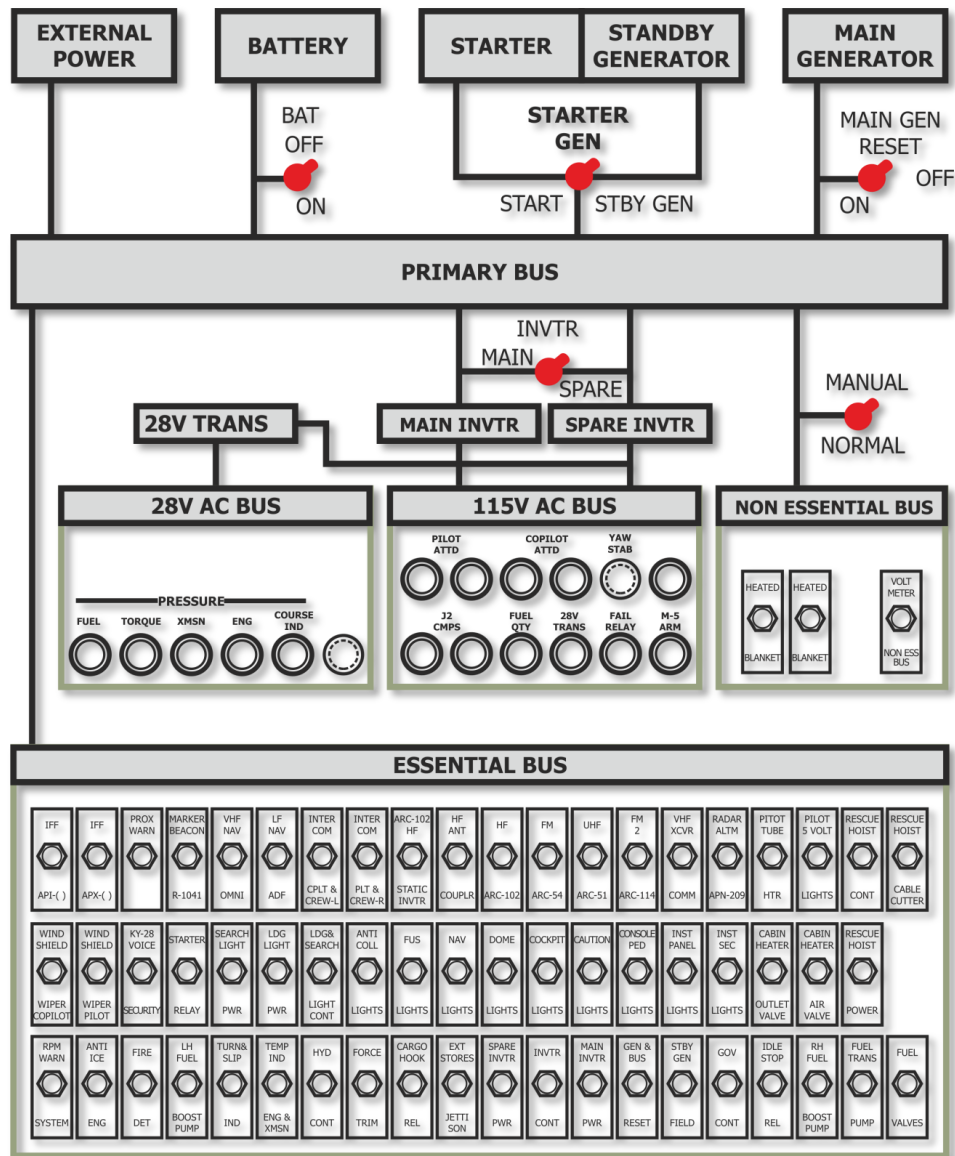
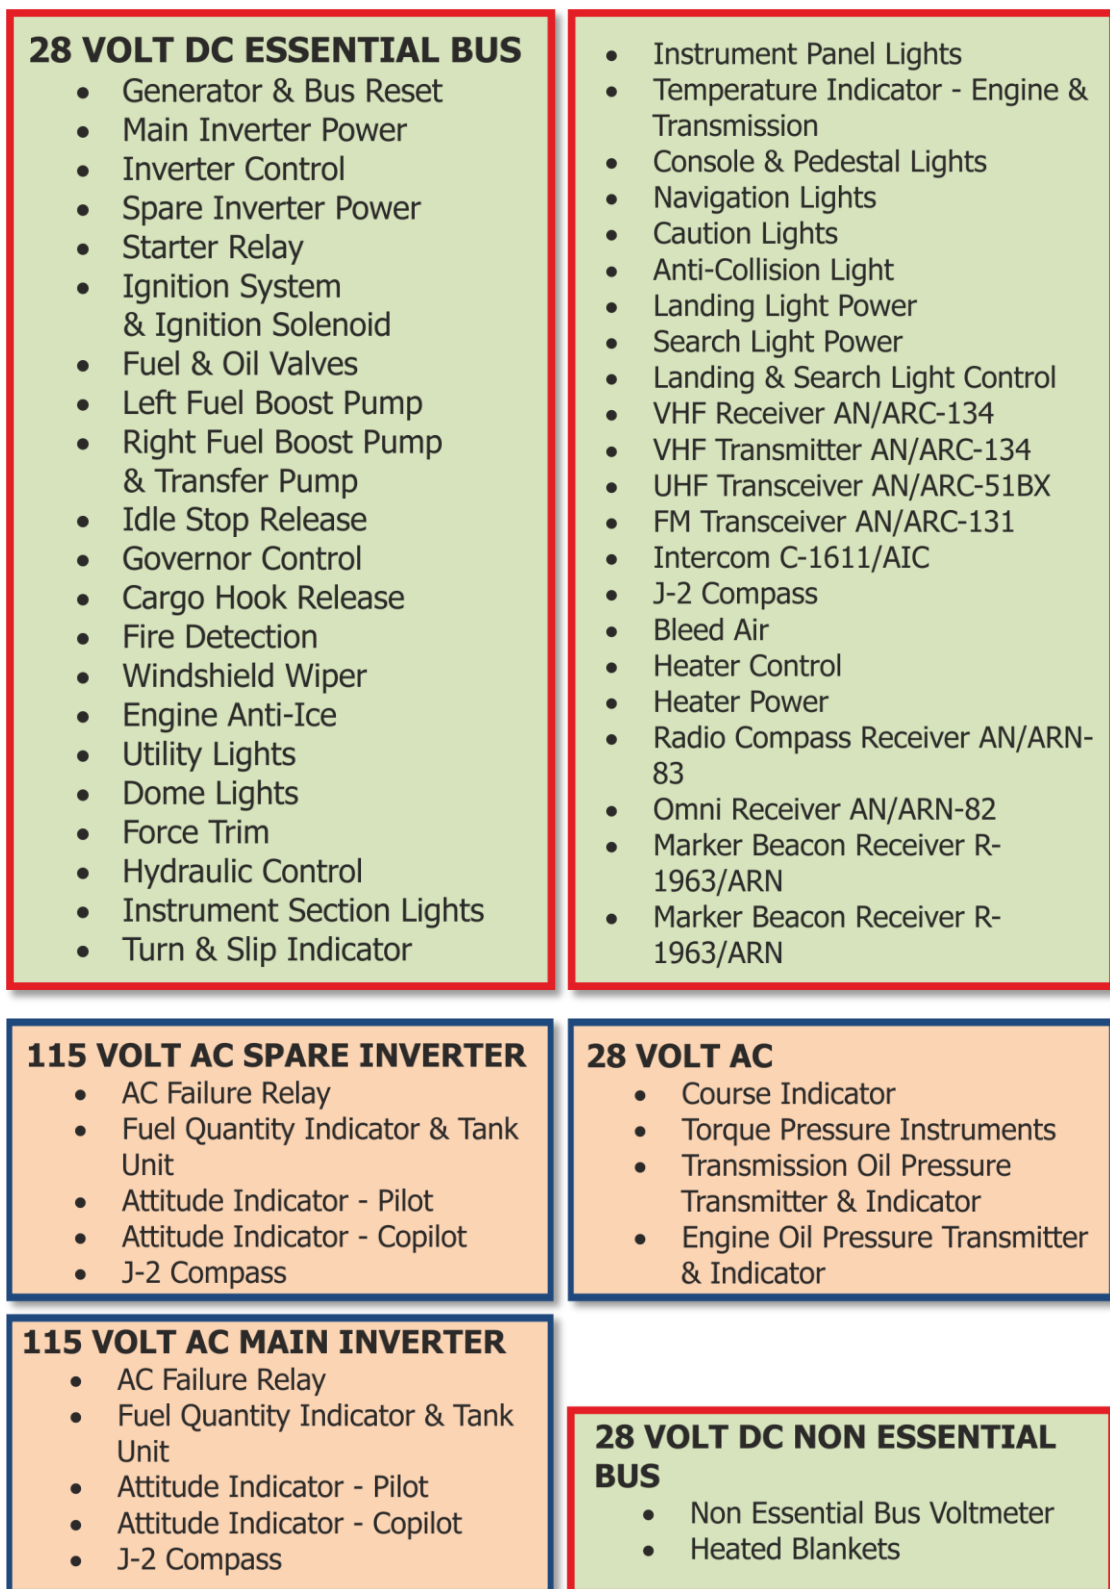
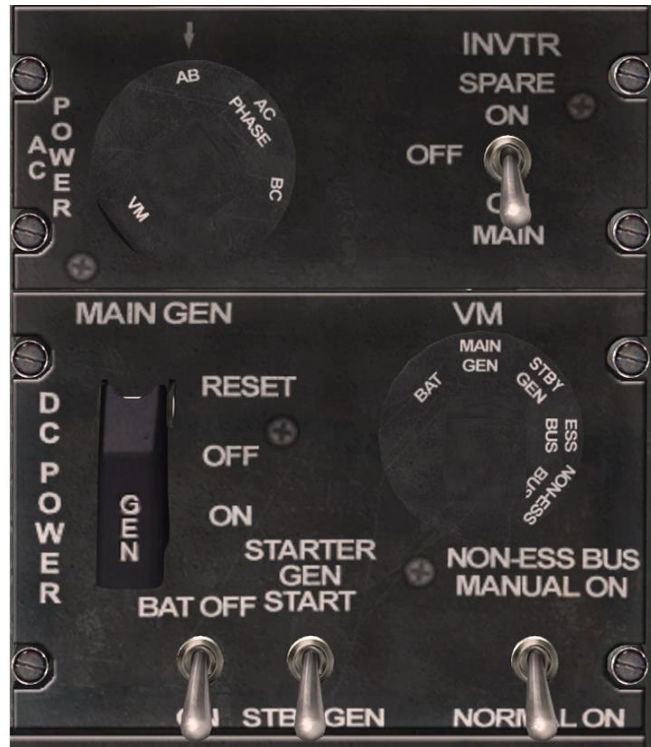

Figure 6.2. Electrical system schematic.
Figure 6.4. DC and AC Power Distribution Diagram.
Figure 6.5. Overhead console AC and DC POWER panel.
Figure 6.2.. Figure 6.4 depicts the general schematic of the DC and AC power distribution system. The DC power is supplied by the battery, main generator, standby starter-generator, or the external power receptacle. The 115 VAC power is supplied by the main or spare inverters. The 28 VAC power is supplied by a transformer which is powered by the inverter.
A. MAIN GENERATOR SWITCH The MAIN GEN switch (Figure 6.5) is on the overhead console DC POWER panel. In the ON position the main generator supplies power to the distribution system. The RESET position is springloaded to the OFF position. Momentarily holding the switch to RESET position will reset the main generator. The OFF position isolates the generator from the system. The circuit is protected by the GEN & BUS RESET in the DC circuit breaker panel.
Alternating current is supplied by two inverters (Figure 6.2). They receive power from the essential bus and are controlled from the AC POWER control panel (Figure 6.5).